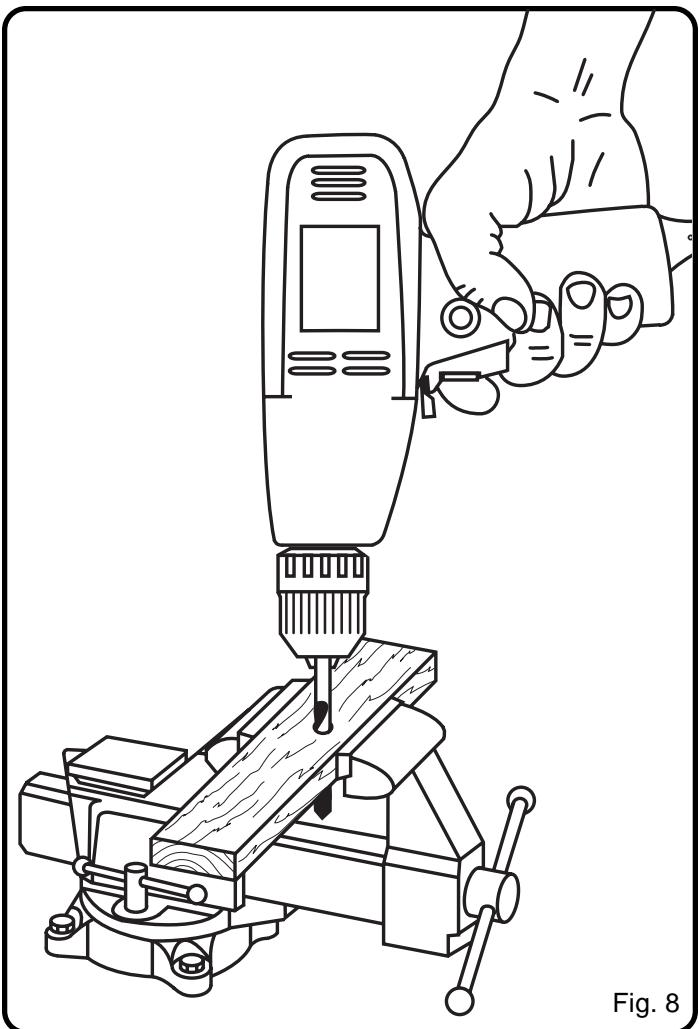

Fig. 8
See Figure 8.
7. Move the drill bit into the workpiece applying only enough pressure to keep the bit cutting. Do not force your drill or apply side pressure to elongate a hole. Let your drill and bit do the work. *See Figure 8.*